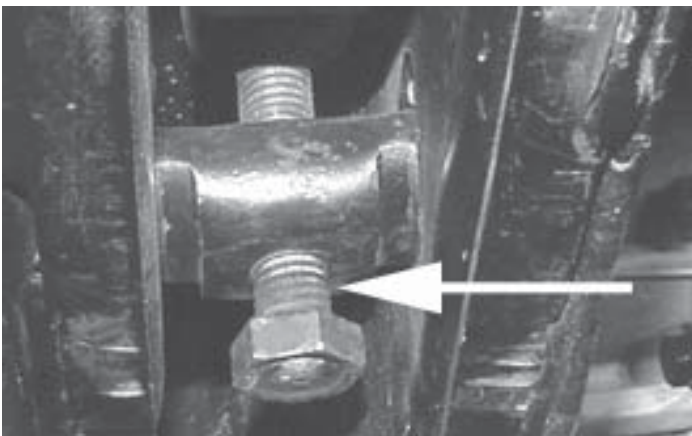

Fig. 1
A. Measure and record the length of exposed thread on the torsion bar adjusting bolts. **Fig. 1**
- G. Remove the adjusting bolts. **Refer to Fig. 1**